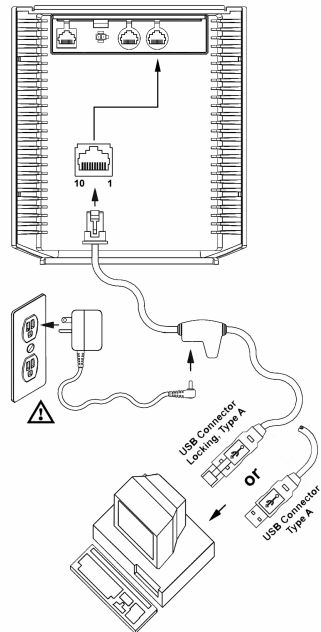

Figure 4b: USB, Interface
4. Connect the PowerLink cable to the 10-pin USB interface jack. It is the 2nd **round** opening from the left side of the MS7320 (see *figure 4b*).